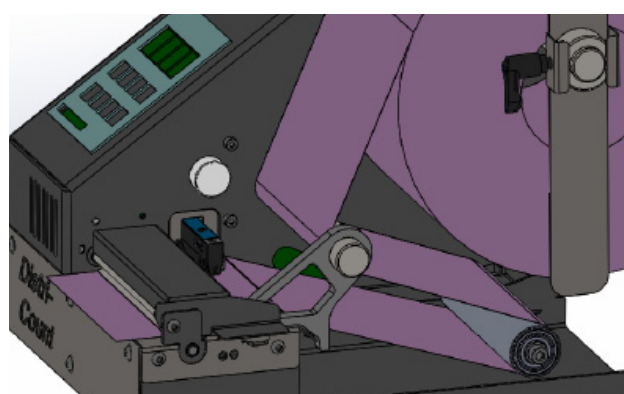

FIG. 4
- load the labels till they are circa 1 cm out the DISTRI-COUNT (FIG.4)
- close the mechanism cover again (FIG.4)